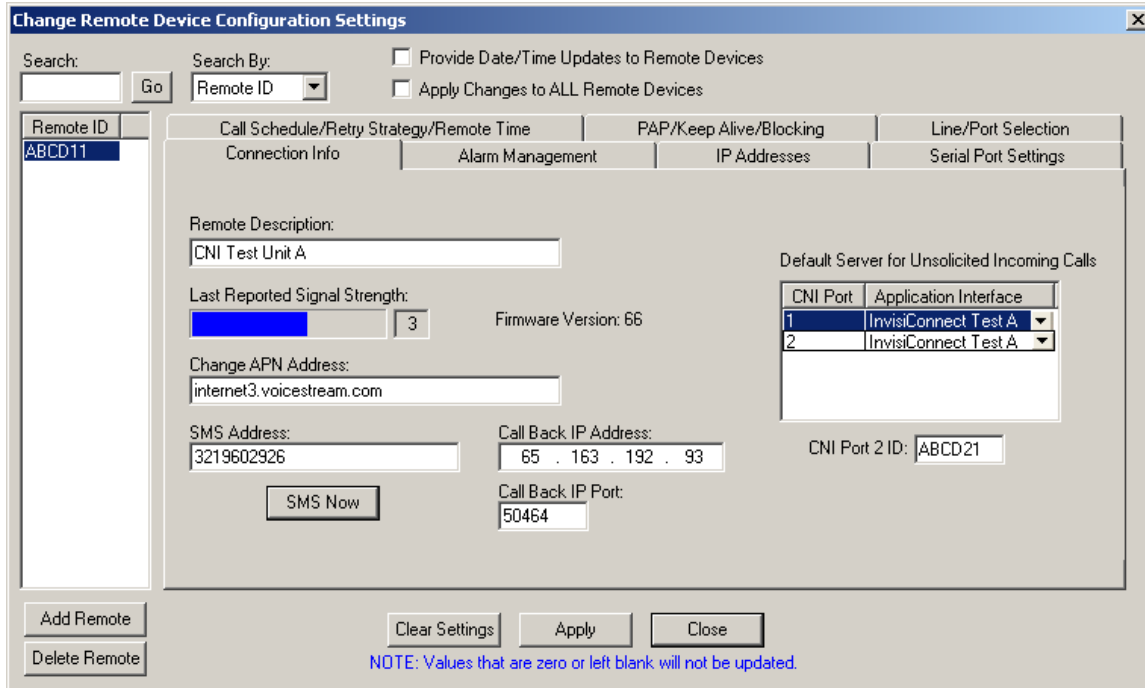

Figure 30 – InvisiConnect™/CNI Testing –Updates from CNI
6. Figure 30. If you have the Remote Configuration window open when the CNI connection is established, you will receive updated information in the Connection Info tab such as the Last Reported Signal Strength and CNI port information identifying the Application Interface of the Default Server. Hint: This is why it is a good idea to descriptively name your interfaces.